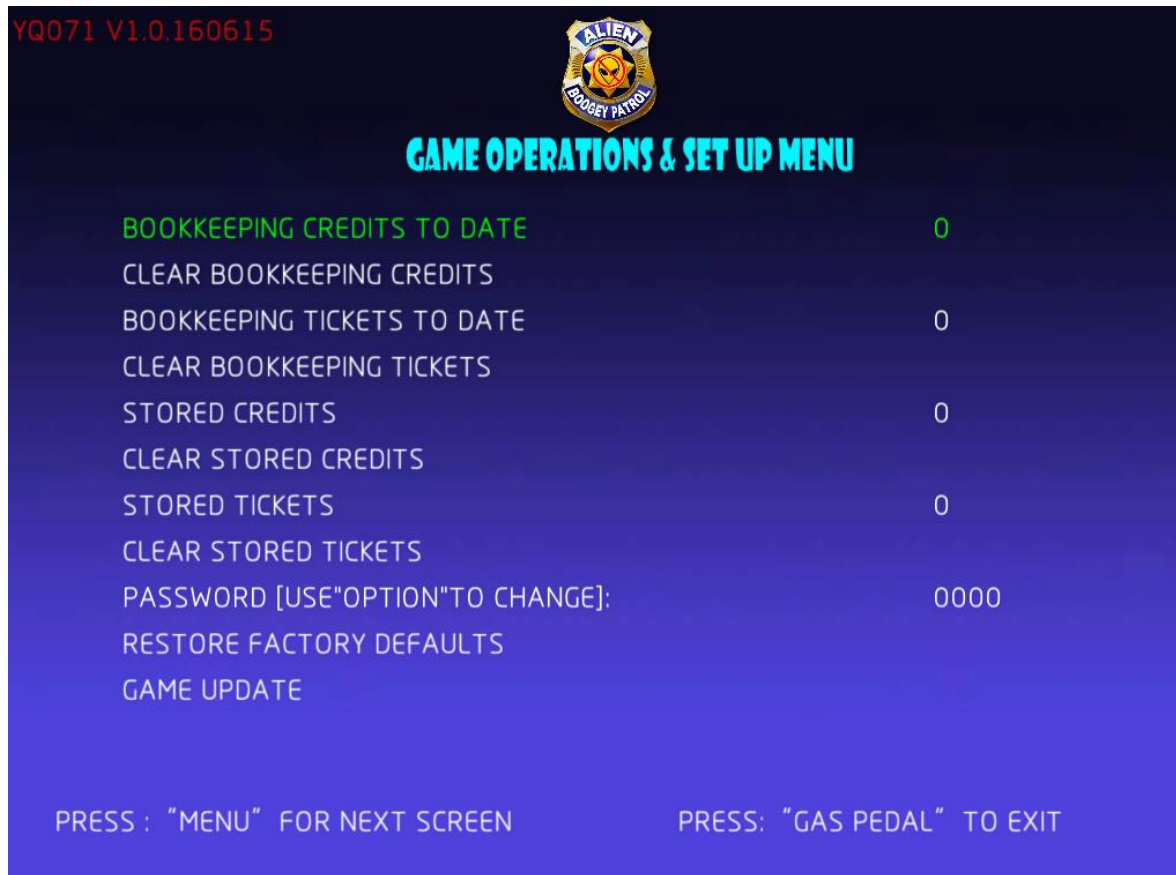

Figure 2
- ⤴ After enter password, press “MENU”, move to ENTER, then press; “OPTION” to enter into next page (see figure 2 )